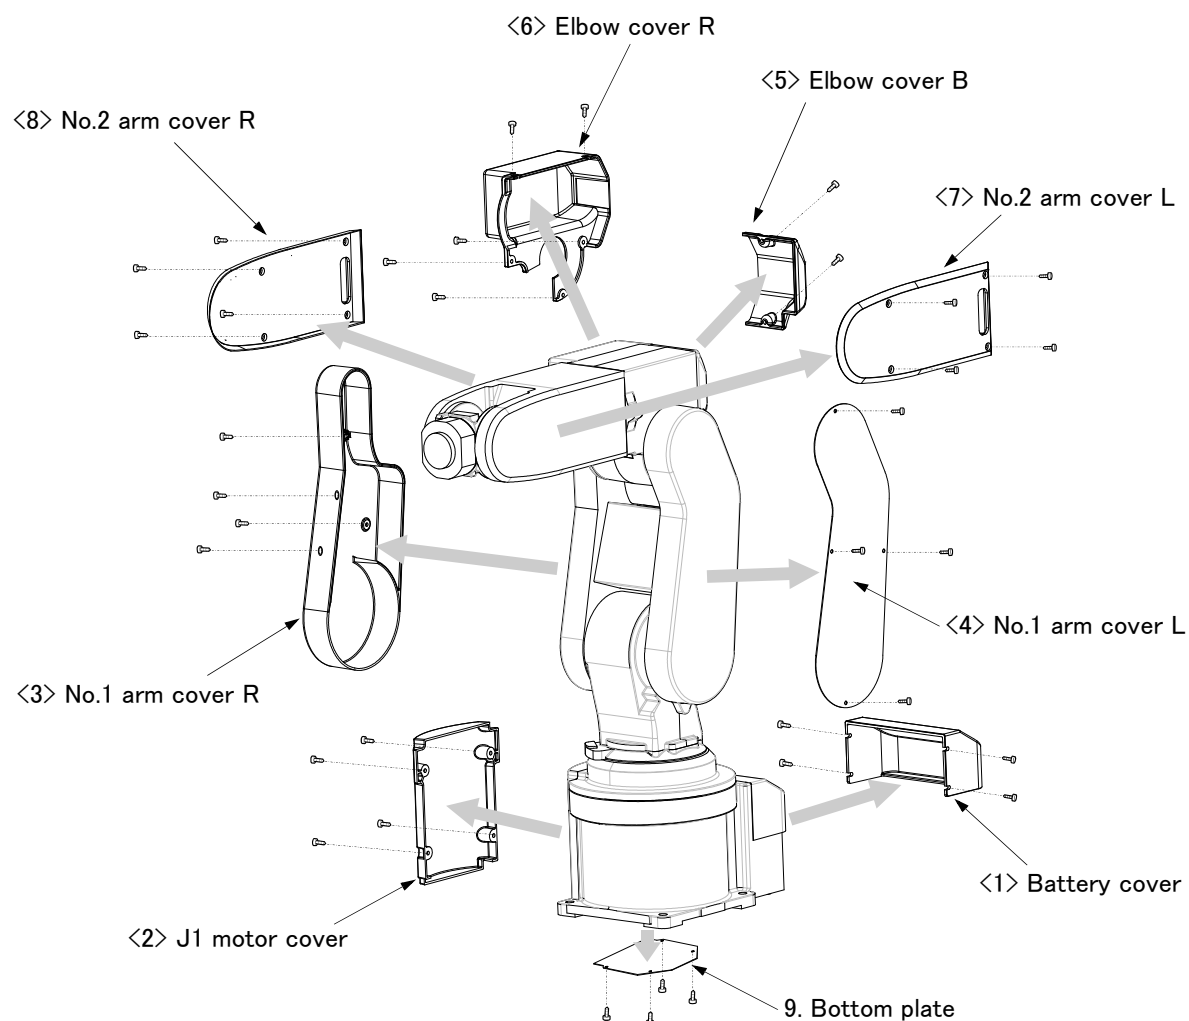

Fig.5-4 : Installing/removing the cover (RV-2FR series)
(1) Refer to Fig. 5-4 and remove the covers.
(2) The names of the cover and installation screw are given in Table 5-4. The number in Table 5-4 correspond to Fig. 5-4.
- (3) Depending on the robot's posture, some covers are hard to be removed. In such a case, change the robot's posture by performing jog operation to remove the covers.
- (4) When reattaching the covers after a maintenance inspection, proceed in the reverse order of their removal. Tightening the screw with the torque shown in Table 5-4.